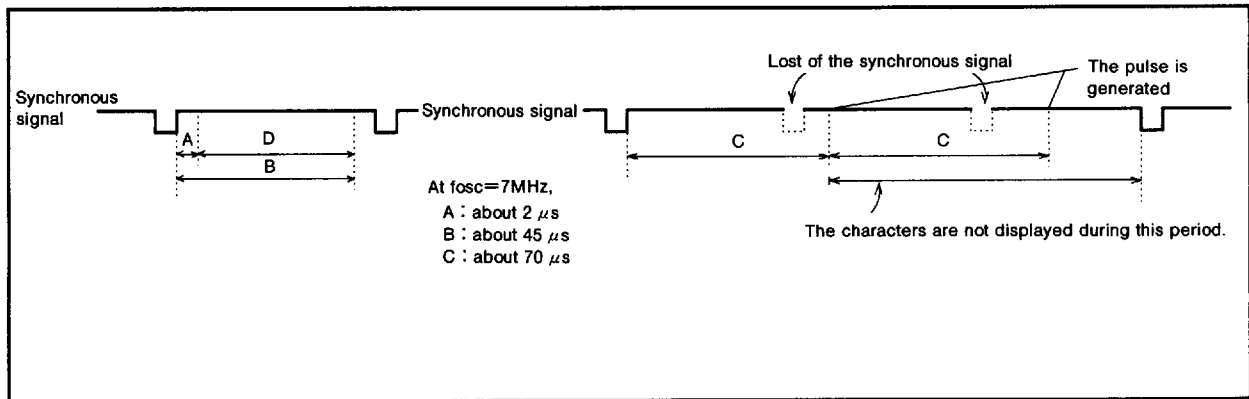

Fig. 9 Example of time base function
- (1) Time base 0—TBASE0 (DA6 of address $F1_{16}$)="1".
- Cut-off a noise during D period of Figure 9.
- (2) Time base 1—TBASE1 (DA7 of address $F1_{16}$)="1"
- Generate the pulse if the synchronous signal has not input during C period of Figure 9. And stop to display the character till the next synchronous signal is input.